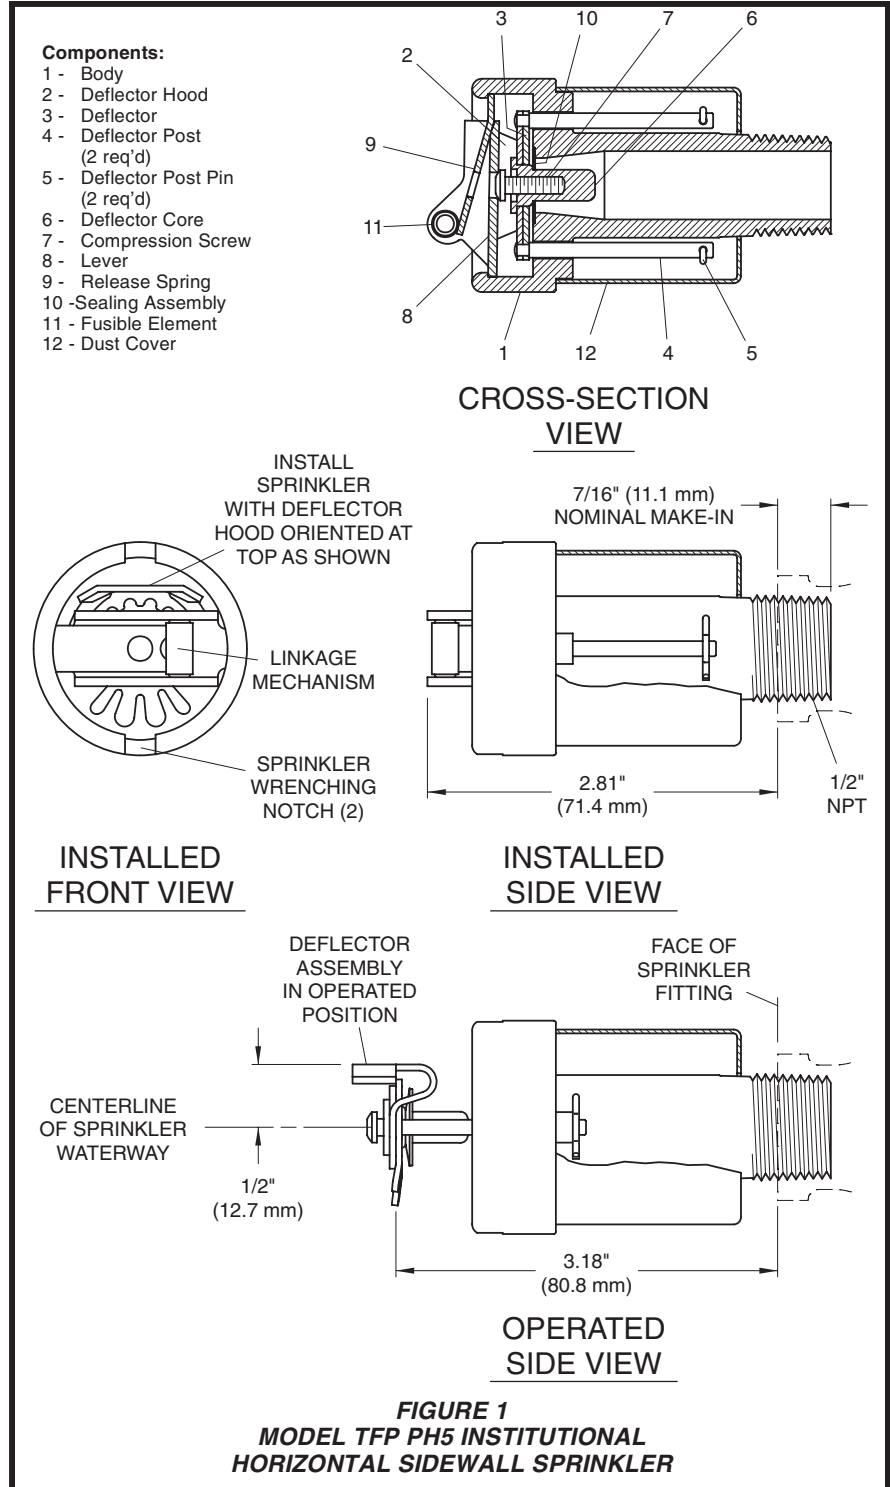

FIGURE 1
Step 1. The TFP PH5 Sprinklers must be installed horizontally with the centerline of their waterway perpendicular to the back wall surface, and the Deflector must be located with the top towards the ceiling (Ref. Figure 1).
Step 3. Wrench tighten the Sprinkler using only the Model 1509-3 Sprinkler Wrench (Ref. Fig. 5). The wrenching teeth of the Sprinkler Wrench are to be applied to the sprinkler wrenching notch areas (Ref. Fig. 1).